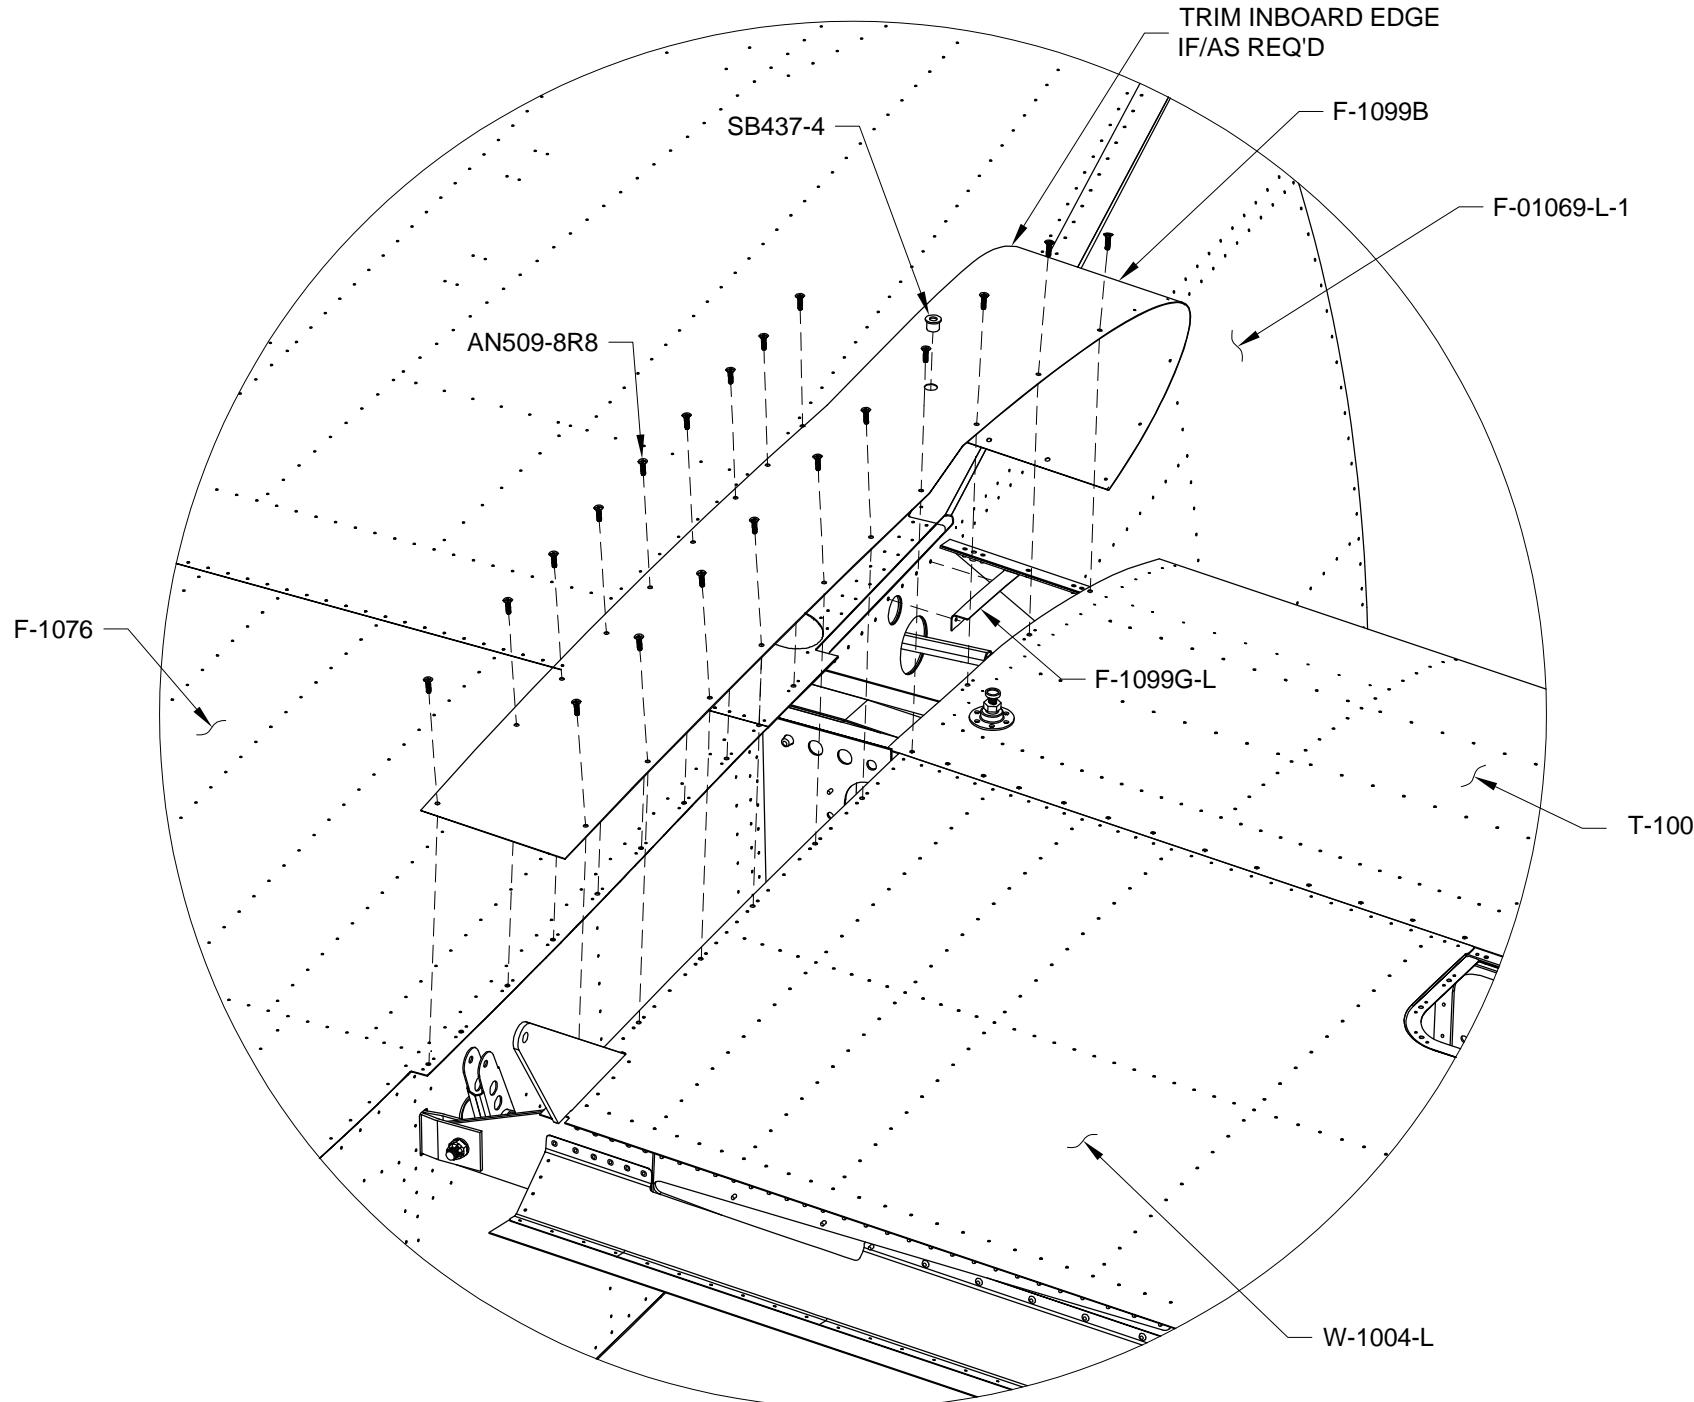

FIGURE 1:
Step 2: Final-Drill #19 then deburr and dimple all 5/32 diameter holes in F-1099B Lower Wing Root Fairing. These holes are depicted in Figure 1 wherever screws are shown.
Install a snap bushing into the lower wing root fairing as shown in Figure 1.
Step 3: Attach the F-1099B Lower Wing Root Fairing to the T-1005B Shim, T-1001-L Fuel Tank Skin, F-1076 Center Bottom Skin, and to the W-1004-L Bottom Inbd. Wing Skin with the hardware shown in Figures 1 and 2.